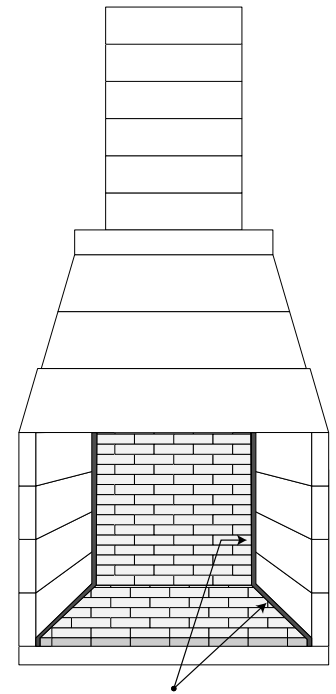

FIGURE 9.2
5. Apply firebrick to the back wall. Cover the expansion gap on the floor with the overlap of brick, leaving it free of mortar. Leave a ½" expansion along both side walls (Figure 9.2).